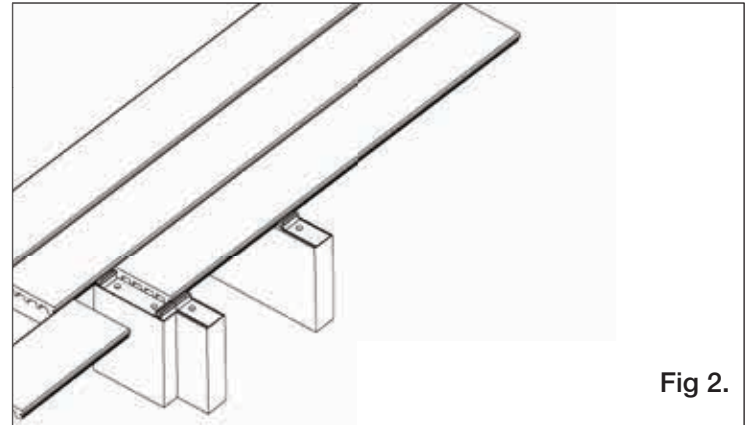

Fig 2.
2. Two inline boards cannot share a Step-Clip. Sister additional framing where butt joint occurs then trim a Step-Clip to accommodate each board and attach separately to the additional framing. (Fig. 2)
When using fascia to cover joists wider than 11-1/2" (292 mm), either stack multiple layers of fascia or use a combination of fascia boards, deck boards and 2x4s as accents to create a unique look. (Fig. 2)